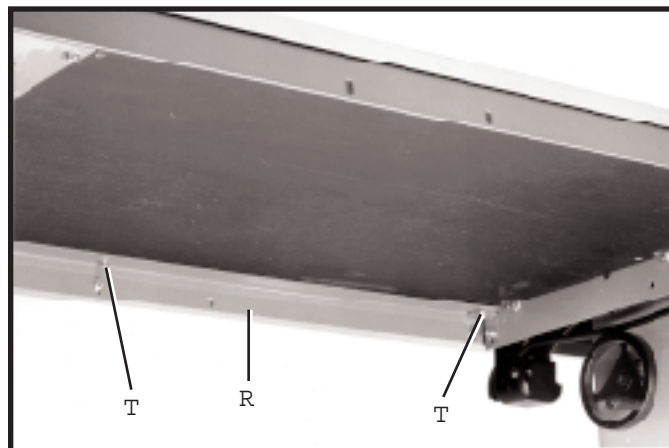

Fig. 38
25. Tighten two screws (T) Fig. 38, that fasten table to front table support (R).